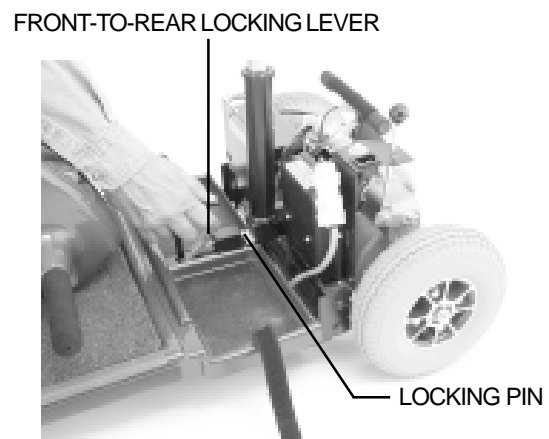

FIGURE 16. FRONT-TO-REAR LOCKING LEVER
2. Pull up on the front-to-rear locking lever (releases the locking pin) with one hand, and push on the seat pedestal to pivot the scooter’s rear section rearward with your other hand—far enough so the rear section’s upper pegs come free of the front section’s upper slots. See figures 16 and 17.